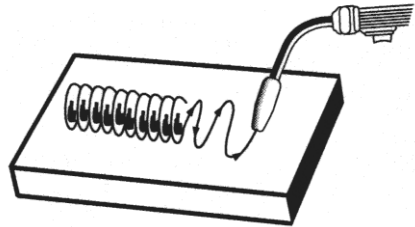

Figure 14. Weave Bead
- The **WEAVE BEAD** (Figure 14) is used when you want to deposit metal over a wider space than would be possible with a stringer bead. It is made by weaving from side to side while moving with the gun. It is best to hesitate momentarily at each side before weaving back the other way.